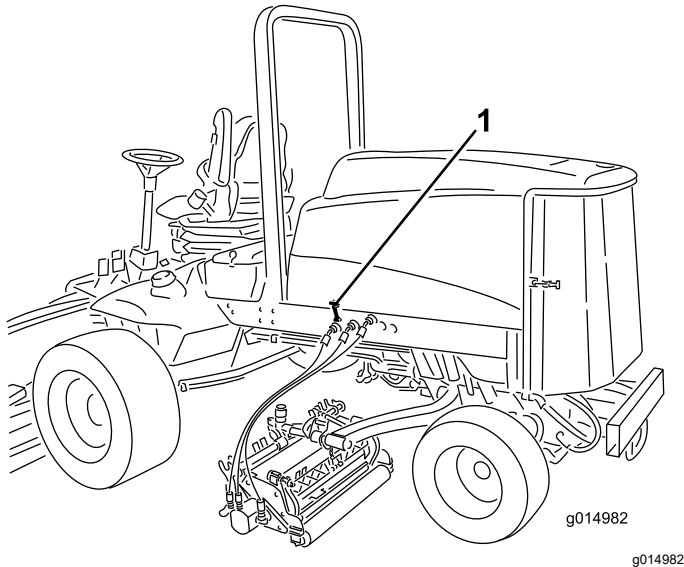

Figure 63
1. Release hood latches (Figure 63) and pivot open the hood.